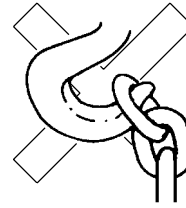
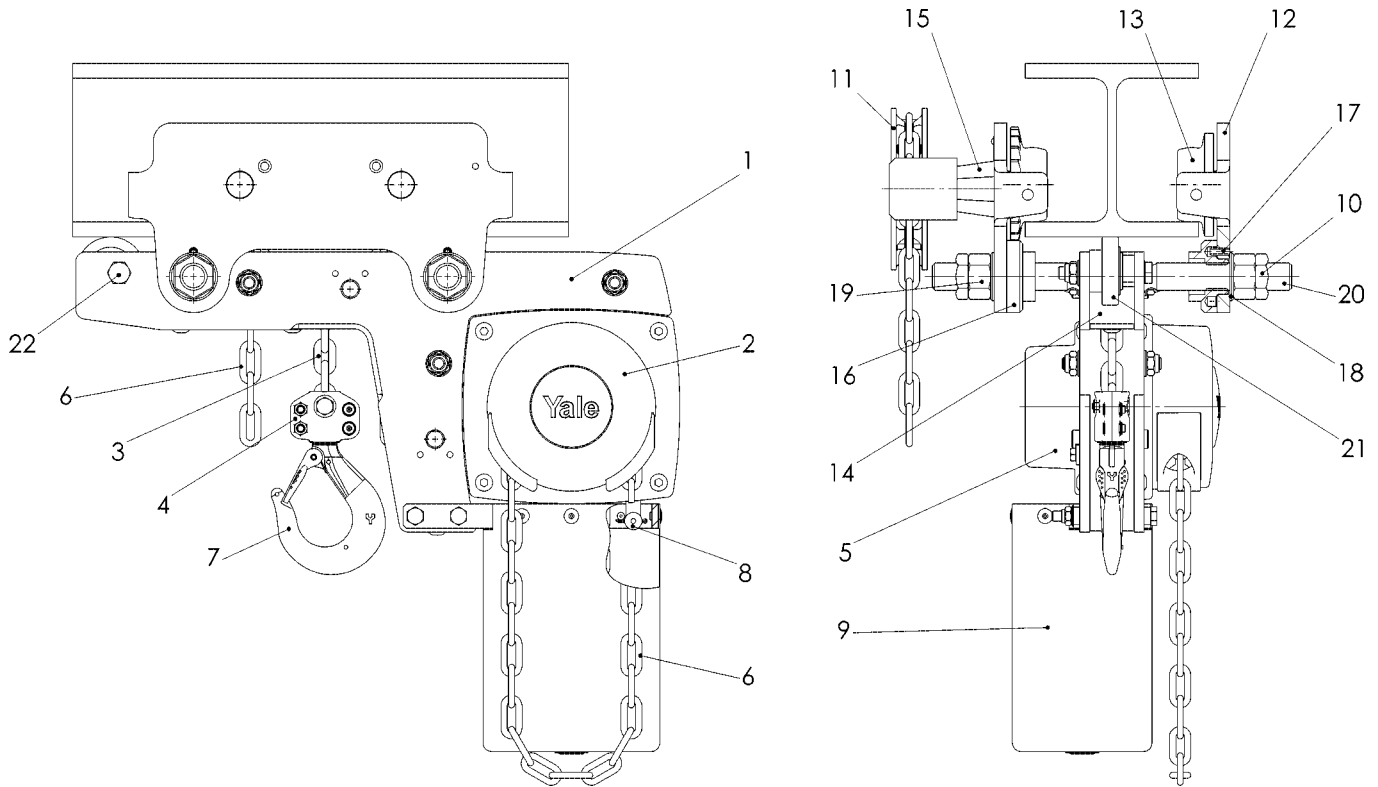

Fig. 8
Fig. 11
- Never attach the load on the tip of the hook (Fig. 8).
- Do not use the chain stop as an operational limit device (Fig. 11).
The chain stop must be connected to the free (idle) chain strand (Fig. 11).
Pulling the hand chain (Fig. 11) in clockwise direction will raise the load. The load must always be seated in the saddle of the hook. Never attach the load on the tip of the hook (Fig. 8).
Pulling the hand chain (Fig. 11) in anticlockwise direction will lower the load.